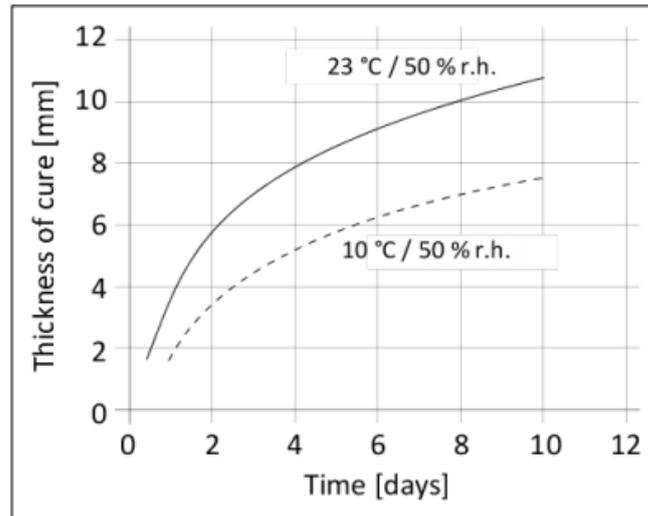

Figure 3.
**Do Not proceed with fitting any hardware to the frame until the glue has set and the frame is securely in place (at least 24 hours).** Figure 3.